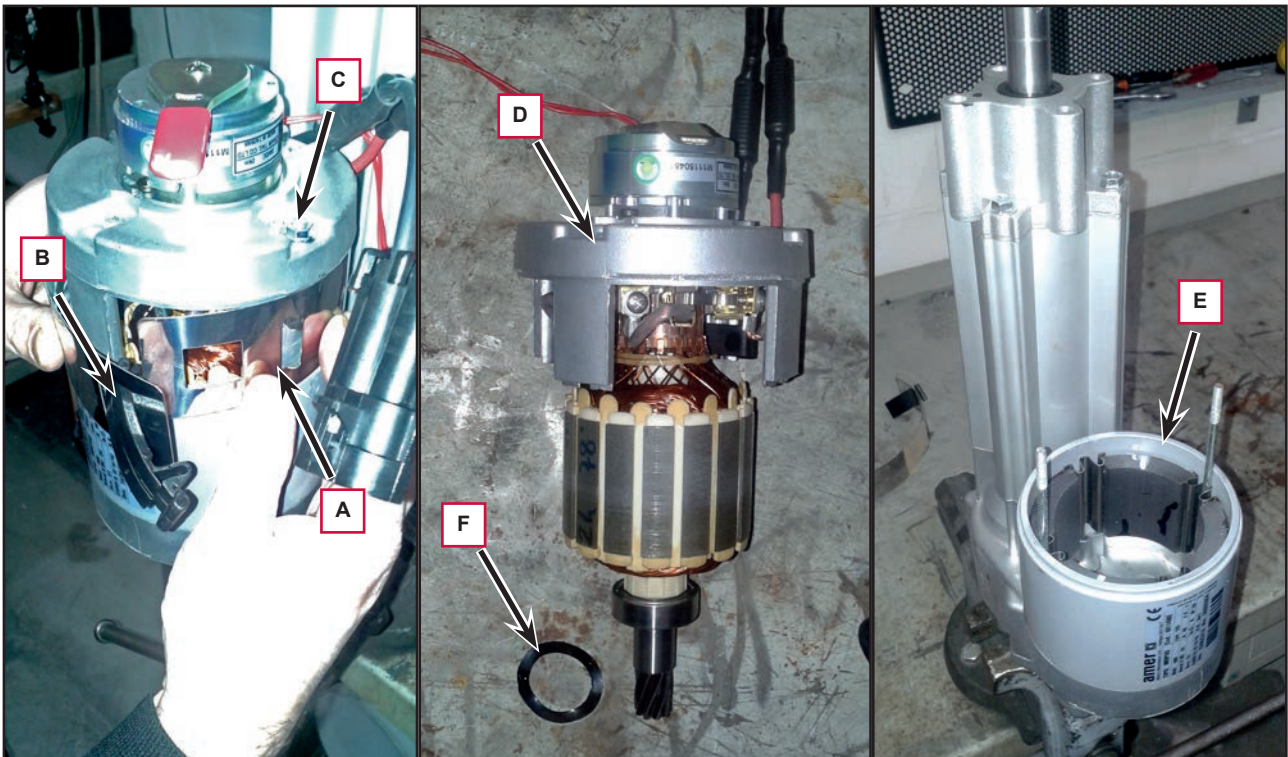

Figure 10
3. Remove the clamp (A, Figure 10) by disengaging the tab (B).
4. Remove the two nuts (C), carefully remove the motor armature (D) from the stator cylinder (E).
5. Retrieve the retaining ring (F).